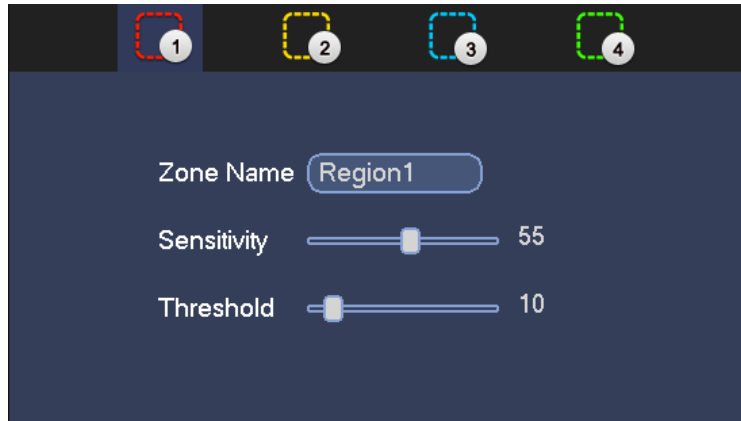

Figure 3-70
- c) Click Region Click select button, the interface is shown as in Figure 3-70. Here you can set motion detection zone. There are four zones for you to set. Please select a zone first and then left drag the mouse to select a zone. The corresponding color zone displays different detection zone. You can click Fn button to switch between the arm mode and disarm mode. In arm mode, you can click the direction buttons to move the green rectangle to set the motion detection zone. After you completed the setup, please click ENTER button to exit current setup. Do remember click save button to save current setup. If you click ESC button to exit the region setup interface system will not save your zone setup.